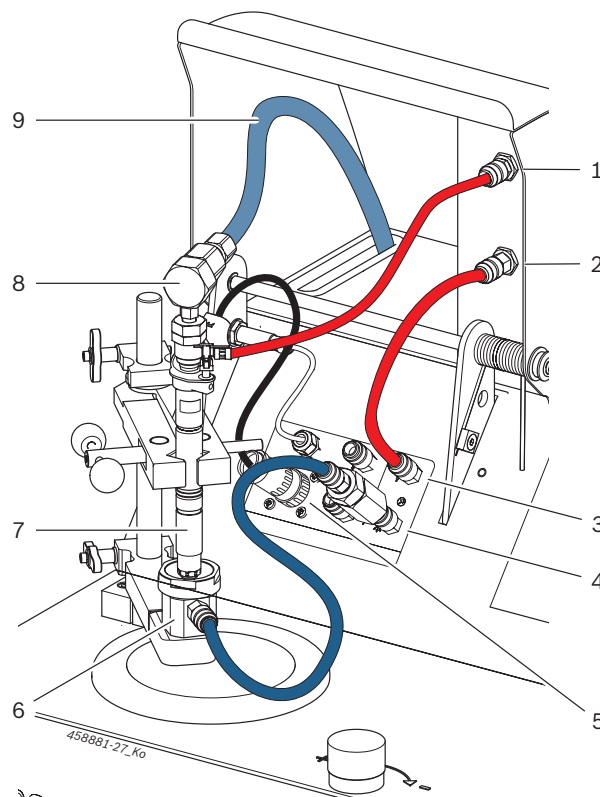

Fig. 5: Block diagram of CRI Piezo connection
Perform the "leak test" before fitting the injection chamber (fig. 5, item 6) on the component.
2. Attach the CRI Piezo (fig. 5, item 6) to the clamp .
3. Connect the high-pressure hose with the connection adapter (fig. 5, item 8, 9) to the CRI Piezo.
4. Connect the hose 1 680 712 368 or 1680 712 369 to the return of the CRI Piezo and to the "CRI Piezo return inlet" (fig. 5, item 1).
5. Connect the hose 1 680 703 079 to the "CRI Piezo return outlet" (fig. 5, item 2) and to the "Test connection for return quantity" (fig. 5, item 3).
6. Connect the injector-specific adapter cable (1 684 465 798 or 1 684 465 672) to the CRI Piezo and to the "Socket" (fig. 5, item 5).
7. Insert the inlet filter in the "Test connection for injected fuel quantity" (fig. 5, item 4).
After the "leak test", fit the injection chamber on the component and connect the hose 1 680 712 362 to the quick-release coupling of the injection chamber and via the inlet filter to the "Test connection for injected fuel quantity" (fig. 5, item 4).